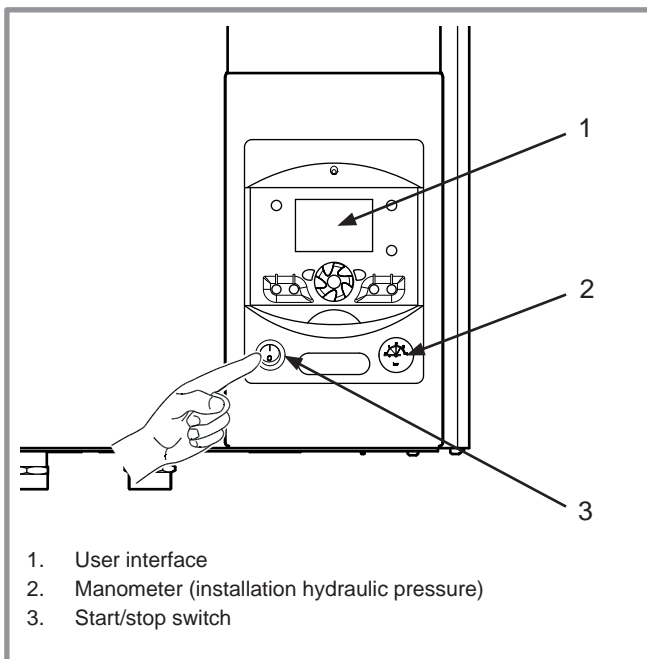

figure 4 - Start-up
- Ensure that the installation is fully filled with water and has been correctly bled and that there is a sufficient pressure of 1,5 to 2 bars on the manometer (ref. 2, figure 4).